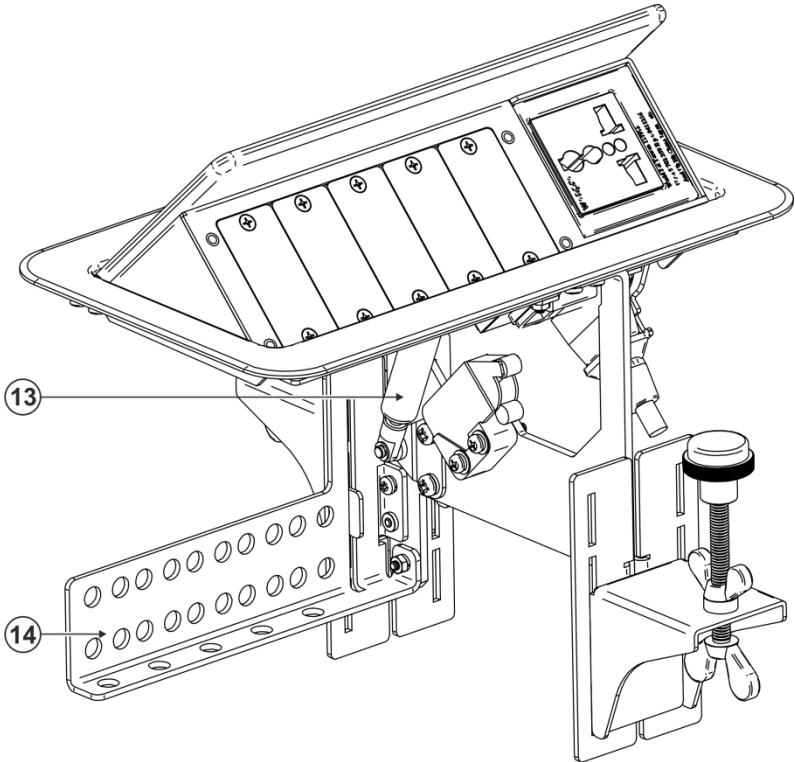

Figure 3: TBUS-203xl Pop-up Table Connection Bus – Left Side View
You can secure the power cable to the cables securing panel (see Figure 3, item 13).
2. Secure the cables to the cables securing panel (see Figure 3, item 13).